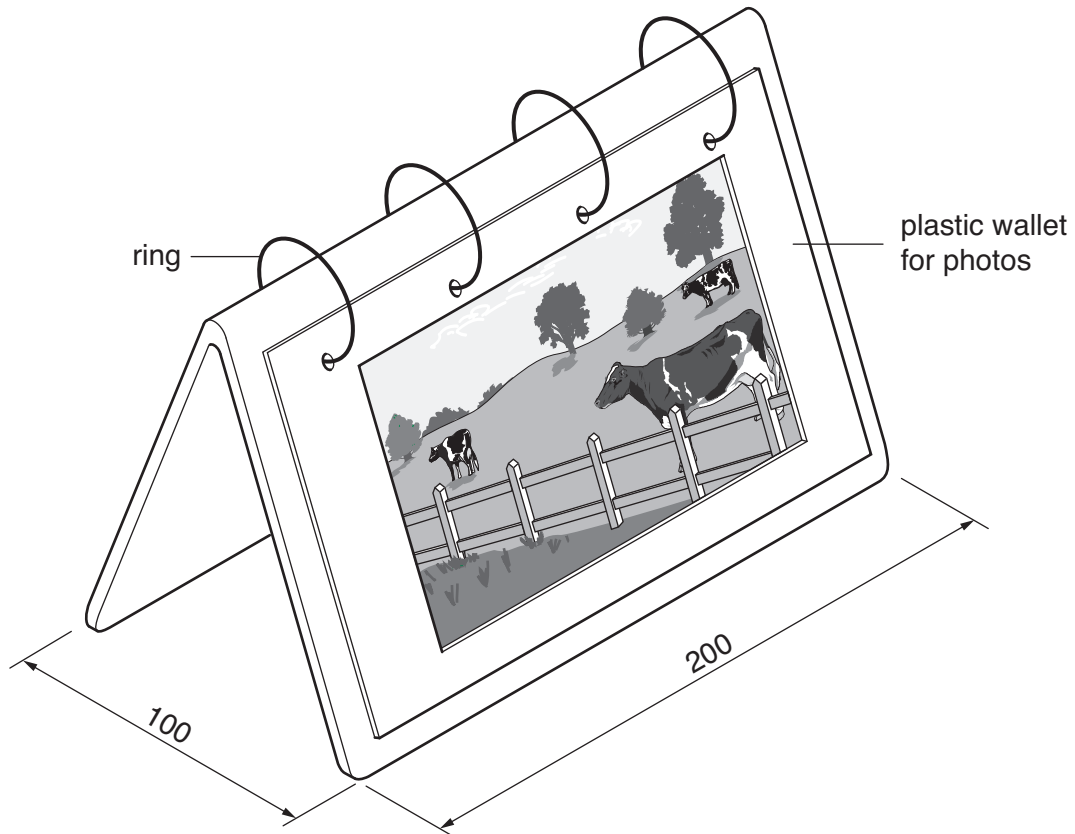

Fig. 3
- 2 Fig. 3 shows a photograph holder made from 5 mm thick acrylic. The rings are made from stainless steel.